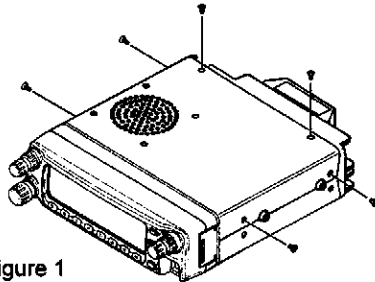

Figure 1
- Referring to Figure 1, remove the six screws affixing the top cover.
- Disconnect the DC power cable, and carefully lift the latch on the left side of the Front Panel/Controller while pulling the panel forward, as shown in Figure 1.